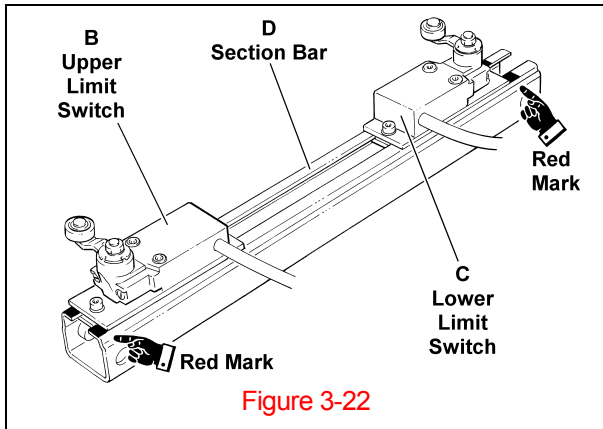

Figure 3-22
- 1) **▲WARNING** The maximum upper and lower Limit Switch (B, C) adjustments are marked in red on the Section Bar (D). NEVER adjust the limit switches past the red marks (**Figure 3-22**).